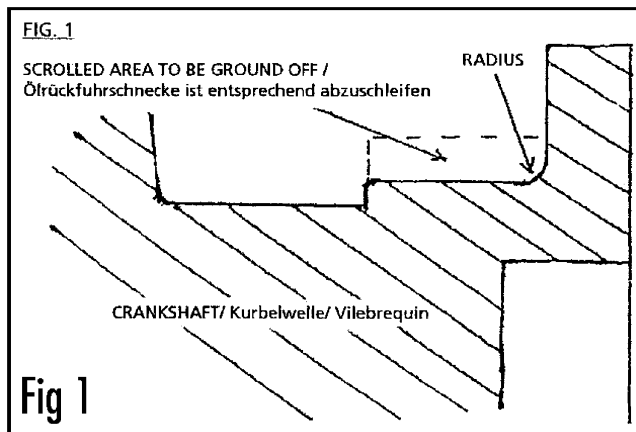

Fig 1
1. First priority is to regrind scrolled area of the crankshaft to 2,500" +0005" 41000" (63,50m +0.1-0.0mm). This will be slightly more expensive than a normal journal grind due to the amount of material to be removed. A clean radius of approx 3/16" should be requested. NOT a sharp corner. (As shown in Fig.1)